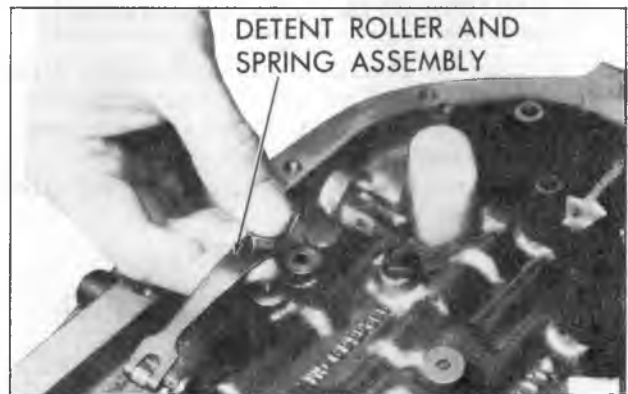

Figure 9—Removing Detent Roller and Spring Assembly
1. Remove control valve body attaching screws and detent roller spring assembly (fig. 9).